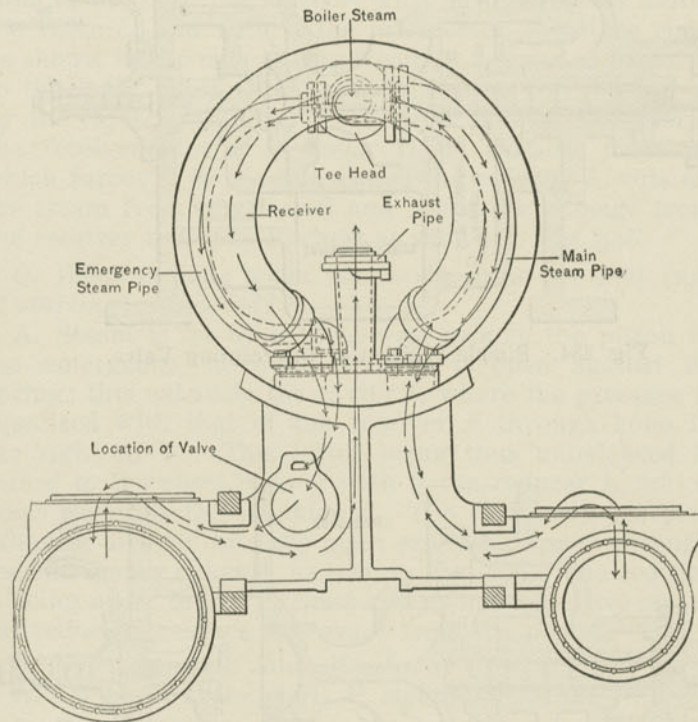

Fig. 333. Richmond Two-cylinder Compound.
*A. Referring to Fig. 333: the course from the boiler to the cylinders and then to the exhaust, is shown by ar-*